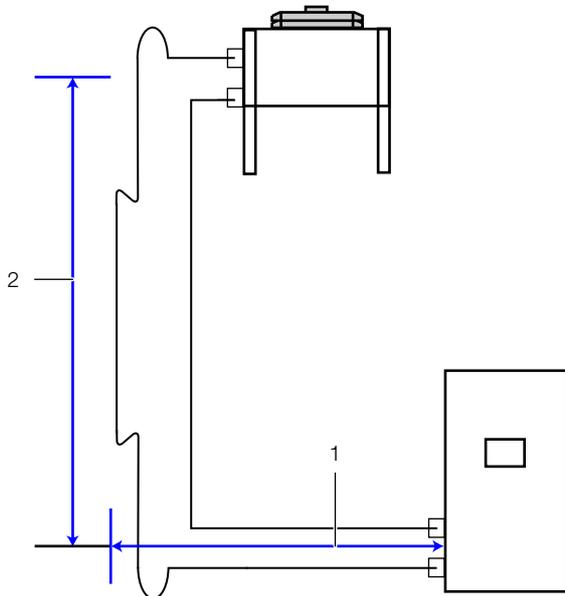

Fig. 13: Relative positioning – condenser above the LCP DX
Sum total of horizontal (fig. 13, item 1) and vertical spacing (fig. 13, item 2 or item 3) between the LCP DX and the condenser	Max. 30 m (98.4 ft) equivalent length
Condenser above LCP DX (fig. 13, item 2)	max. 20 m (65.6 ft)
Condenser below LCP DX (fig. 13, item 3)	max. 3 m (9.8 ft)